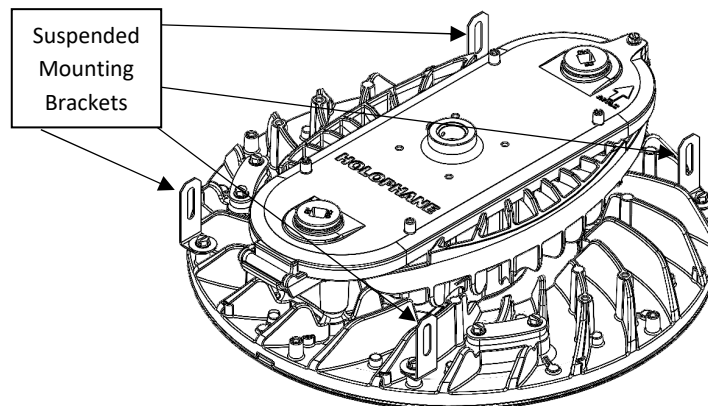

Figure 3.6.1: Aircraft Cable Mounting Option
1. If using the AC120, AC240, ACSS120, or ACSS240 (aircraft cable options), hook the latches through the holes of the suspended mounting brackets shown in Figure 3.6.1.